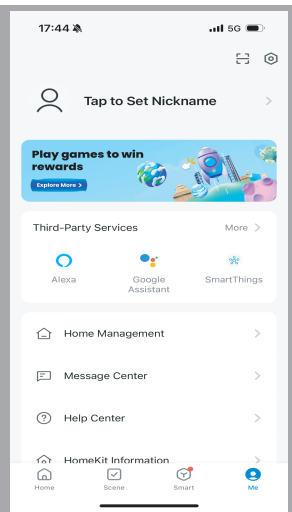

Fig. 20
G). Back to the main interface of the App, click the icon  to get more about the App (Fig.20), and also you can **clear the cache** here.